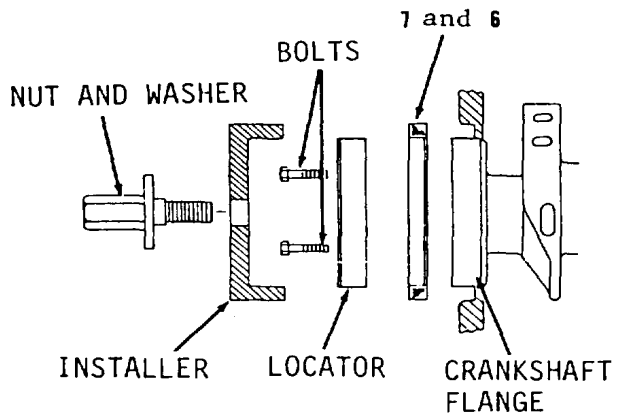

Figure 13-62.
11. Remove nut and washer, installer, locator and three bolts (Figure 13-62) from crankshaft.